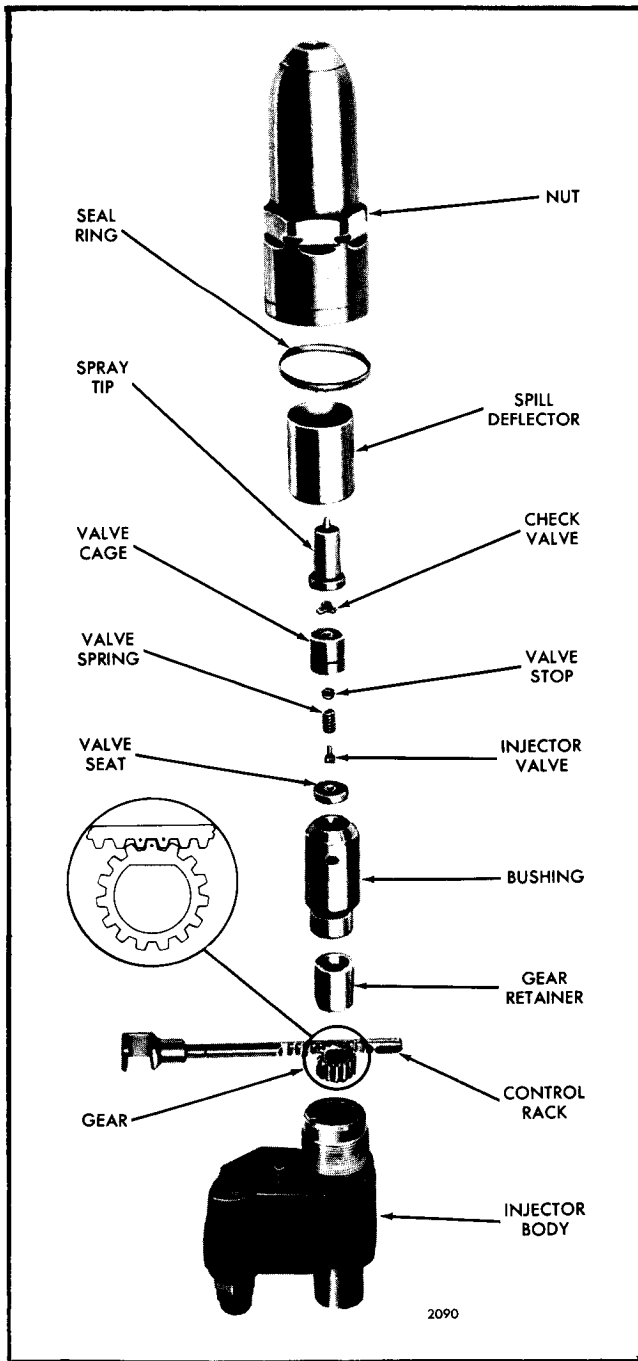

Fig. 31 - Injector Rack, Gear, Spray Tip and Valve Assembly Details and Relative Location of Parts
6. Refer to Fig. 31 and remove the spill deflector and the seal ring from the injector nut.
Refer to Fig. 31 and note the drill spot marks on the control rack and gear. Then proceed as follows: